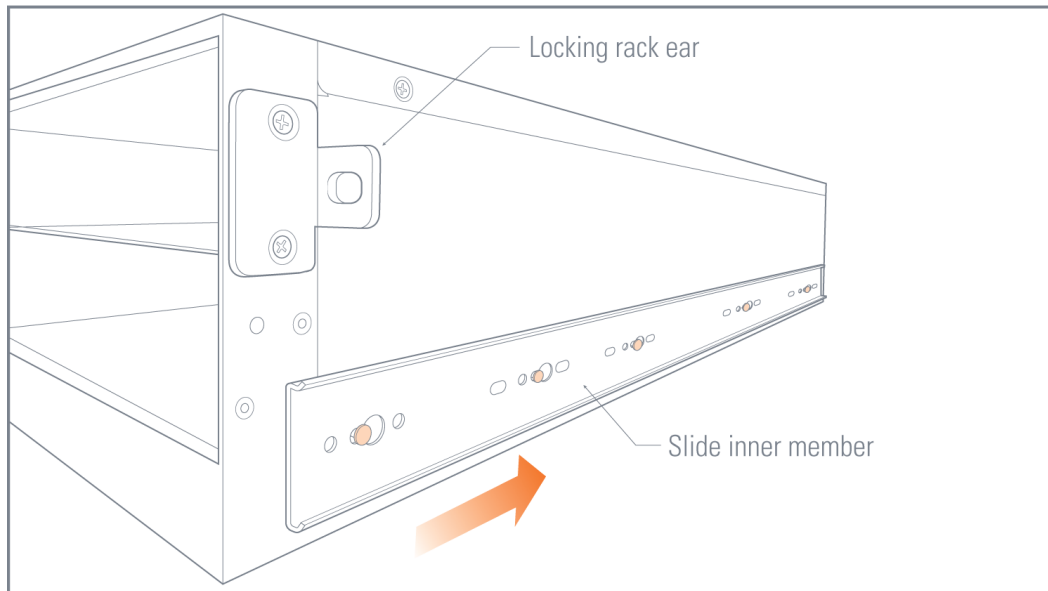

Figure 3 Slide Inner Member and Locking Rack Ear Installed on Chassis
6. Attach the left and right inner members of the mounting slide to the chassis and attached the locking rack ear to the chassis. Refer to Figure 3 Slide Inner Member and Locking Rack Ear Installed on Chassis.